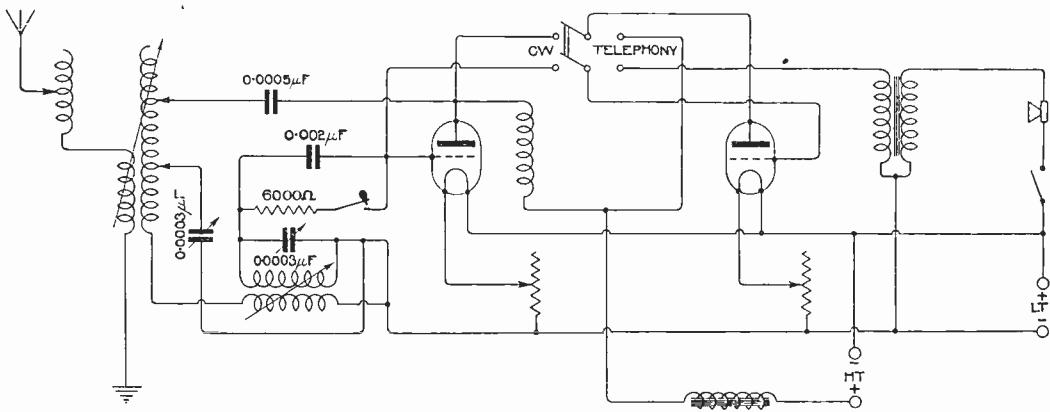

Fig. 1.
The diagram is given in Fig. 1. The aerial inductance will be determined from the constants of your aerial, but will generally be 6" in diameter and 6" long, of No. 16 D.C.C. The closed circuit coil may be 8" in diameter and 6" long, of No. 18 D.C.C., the wire in each case being spaced. The grid circuit coil should be a winding 5" in diameter and 3" long, of No. 20 D.C.C. The air choke
(1) If desired, a switching arrangement may be included for the purpose of using the high frequency transformer or the tuned anode method of amplification as desired. A suitable diagram is given in Fig. 1, page 129 of October 28th issue. (2) The method of switching valves with a circuit of the description submitted is given in most issues of this journal.